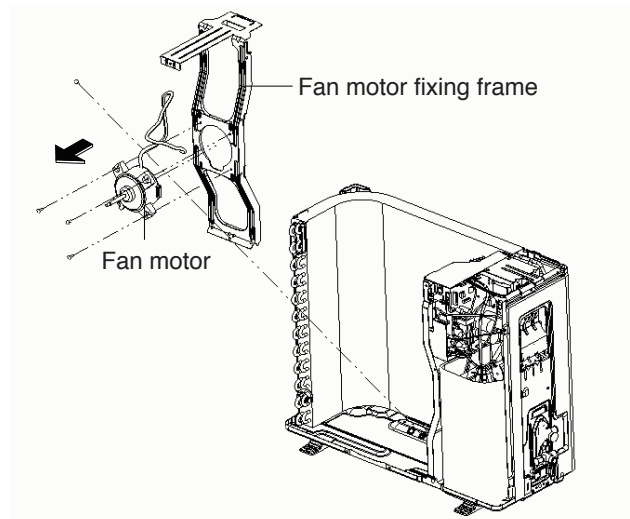

Fig. 58
(2) Remove the 4 tapping screws fixing the motor. (Fig.58)